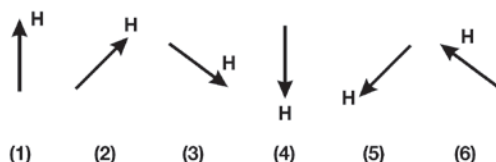

Figure 1.12
Figure 1.12 shows this graphic sum for six successive steps
At instant (1), figure 1.12 shows that the field H_1 is at its maximum whereas fields H_2 and H_3 are negative and have the same value: 0.5. The resulting field (graphic sum) is shown in the upper part of figure 1.12 (1) and has the same direction as the winding of phase 1.